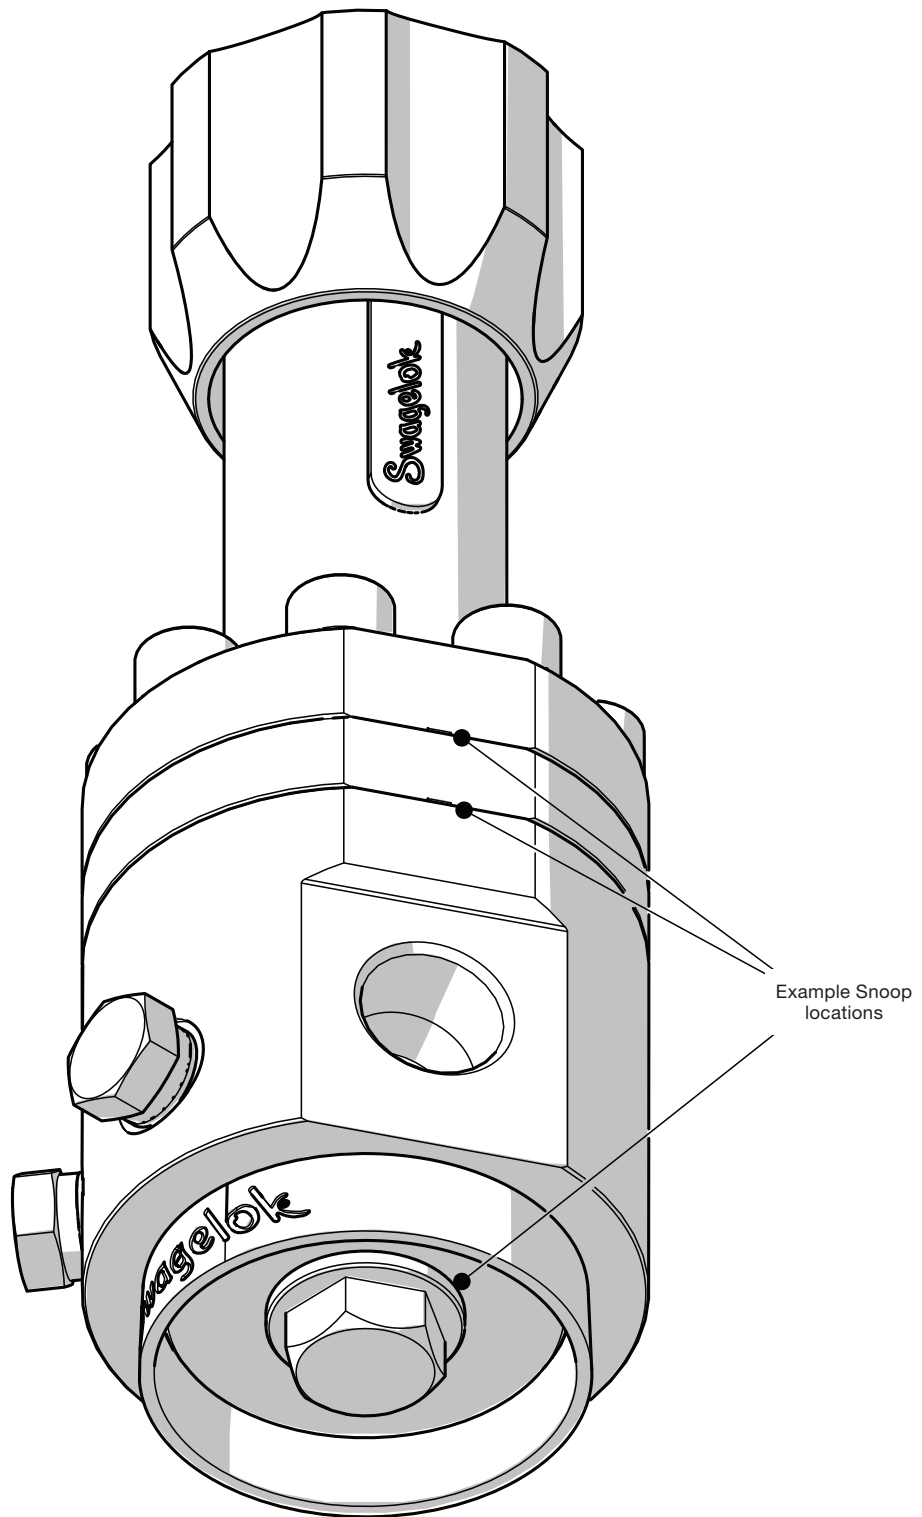

Figure 20
4. Using liquid leak detector, check for bubbles at the spring housing/dome weep hole and body plug to body interface (See Figure 20).